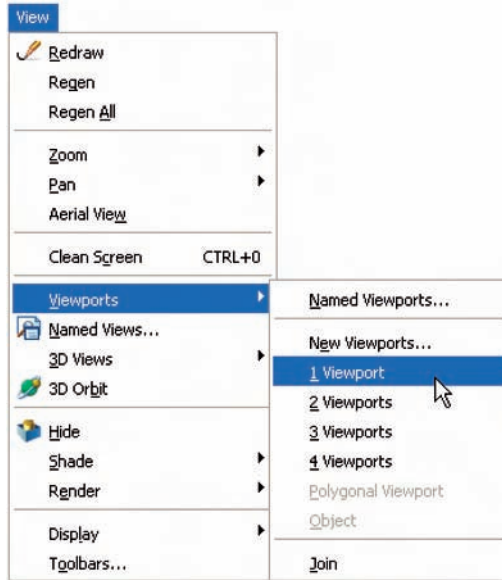

Fig. 15.30 Calling **1 Viewport** from the **View** drop-down menu
1. Open the drawing of the lathe tool holder constructed in answer to the first example in this chapter (Fig. 15.4). The drawing is in a **Four: Equal** viewports setting. *Click* in the **Top** viewport and from the **View** drop-down menu *click* **1 Viewport** in the **Viewports** sub-menu (Fig. 15.30). The assembly appears in a full size single viewport.